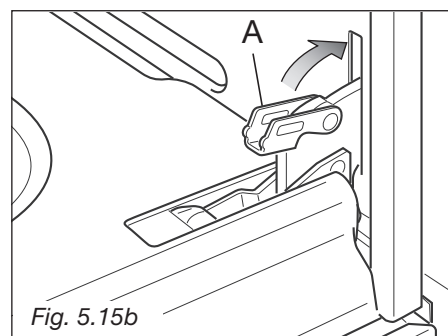

Fig. 5.15b
- Fully close the levers “A” on the left and right hinges, as shown in the figure 5.15b.